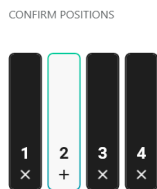

Figure 35 Confirming system health check positions with positions 1, 3, and 4 selected, and position 2 unselected.
4. Unselect the positions you do not want to perform a system health check on (see Figure 35). By default all positions are selected.